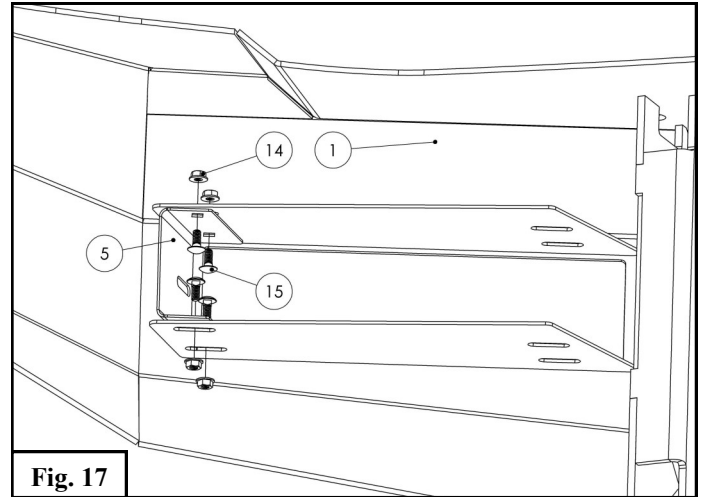

Fig. 17
6. Loosely install inner and outer lighting brackets (4 & 5) using 1/4" hardware. **Note:** Install lights with manufacturer hardware. See **Figures 17 & 18**.